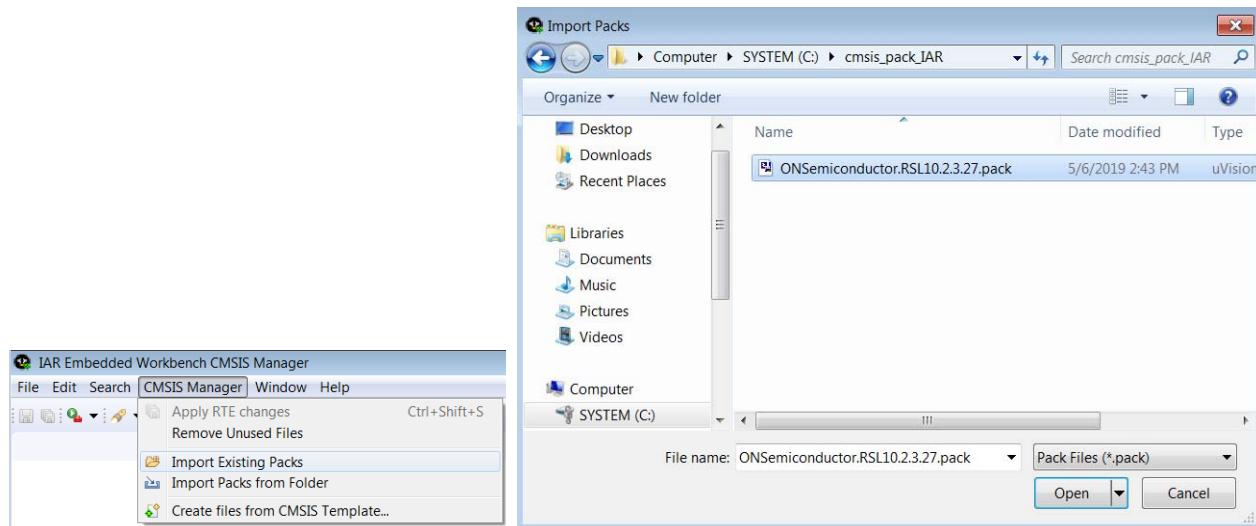

Figure 28. Installing the RSL10 CMSIS-Pack for the IAR Embedded Workbench IDE
3. Click on **CMSIS Manager > Import Existing Packs**, select your pack file *ONSemiconductor.RSL10.<version>.pack*, and click **Open** (see Figure 28). <version> is the RSL10 version, such as 2.3.27.